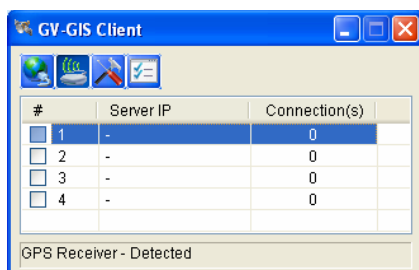

Figure 11-93
2. Click the  button on the GV-GIS Client window (Figure 11-93). This dialog box appears.
3. Click the  button on the GV-GIS Client window (Figure 11-93). This dialog box appears.